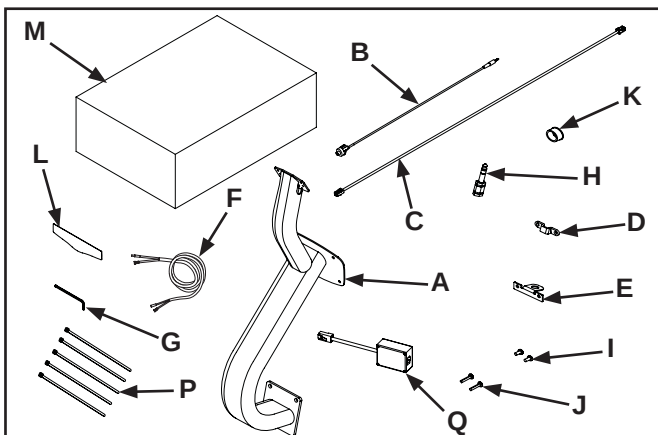

Figure 1
- 7/32" Allen wrench (2)
2. Verify kit contents shown in Figure 1.
- A. Console monitor mount (1), 425A-220
- B. Audio cable 1/4" to 3.5 mm 18" (1), 630A-102
- C. RJ-45 round cable (1), 630A-103
- D. Headphone adapter clamp (1), 630A-330
- E. Headphone jack mount bracket (1), 630A-331
- F. Coax and power cable I/O W/2.1 mm (1), 630A-104
- G. Allen wrench 3 mm (1), BK030210
- H. Adapter, 1/4 plug to 1/8 stereo jack (1), ES000001
- I. Self tapping screw 8-16 x .31 (2), HT552509
- J. Self tapping screw 8-16 x .75 (2), HT552515